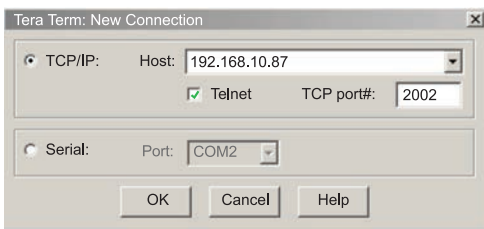

Figure H-1
- p** Following with a return character, the console will show the iServer configurations (**Figure H-1**).